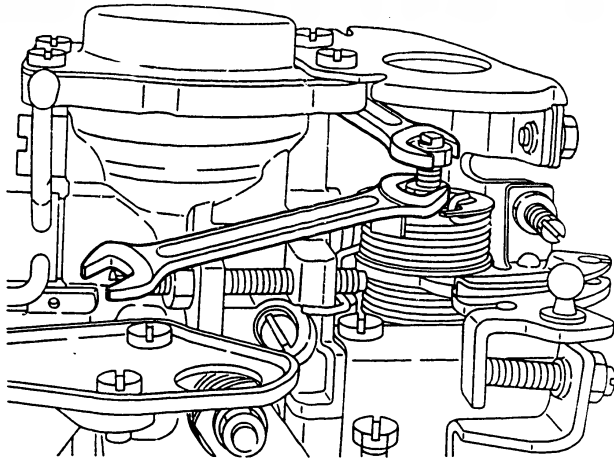

Fig. 226 Resetting the adjusting bolt position
6. If it cannot be adjusted using only the elongated slot, reset and fix the adjusting bolt position and then readjust the potentiometer position (refer to item 5). (Figs. 226 and 227)